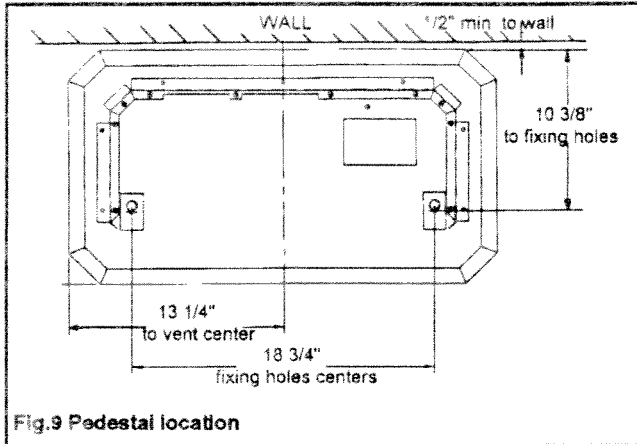

Fig.9 Pedestal location
- 9.2 Place the pedestal in position (see figure 9). The bottom rear of the pedestal must be at least $1/2$ " from the back wall to allow room for the stove overhang.
- 9.3 Mark the floor with the floor fixing positions through the holes in the pedestal (see figure 9).